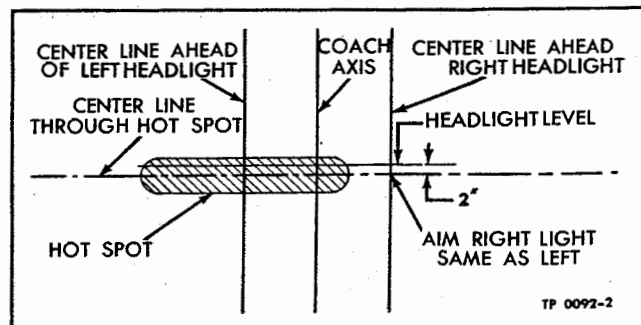

Figure 42—Headlight Beam Pattern
5. Beam pattern should approximate that shown in figure 42. A distorted beam pattern is usually caused by a sprung reflector, in which event Sealed-Beam unit must be replaced.